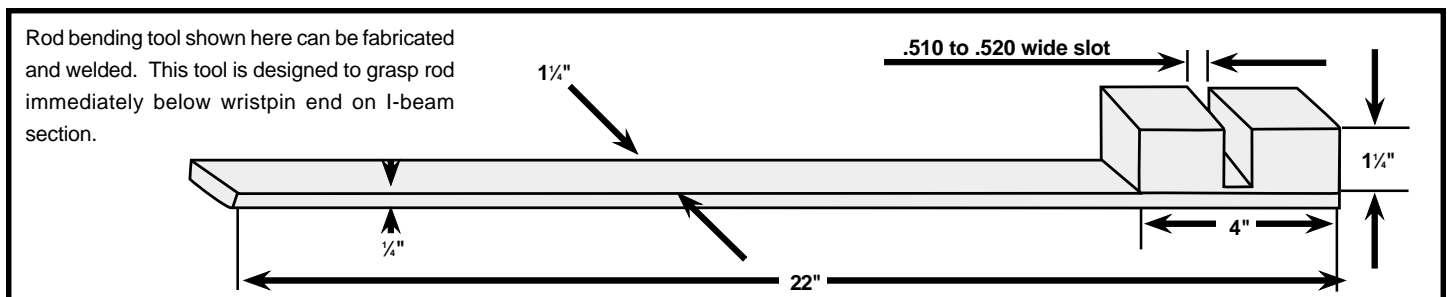

Figure 2
*NOTE - S&S rod checking pin, part #53-0002, is designed to help perform this procedure. It may also be necessary to fabricate a rod bending tool as illustrated in Figure 2.*